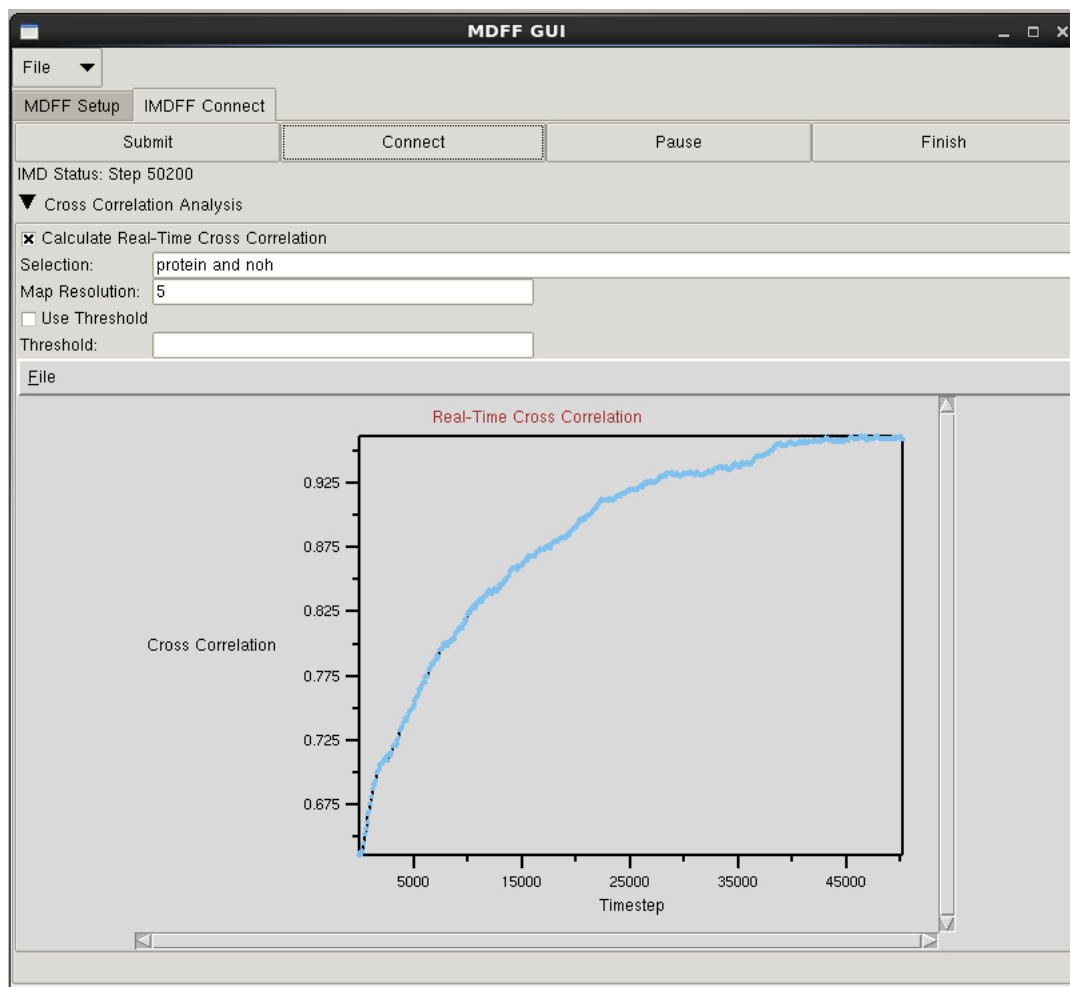

Figure 20: Analyze your interactive MDFF simulation in real-time by computing the cross correlation of the structure to the density map as the simulation runs
- 5 Before (or after) connecting to a running IMDFF simulation, you can open the 'Cross Correlation Analysis' subsection in the IMDFF Connect tab to perform real-time analysis of your fitting. To do so, check the 'Calculate Real-Time Cross Correlation' box. You can also set the atom selection for the piece of the structure you wish to analyze, as well as the resolution of the map (the defaults for both are fine for this tutorial). You can also set a threshold value, where any density values less than the threshold will not be included in the analysis. More information on choosing a threshold is given in Section 7.3. The cross correlation value for each simulation frame will be graphed in the area at the bottom of this tab, as seen in Fig. 20. This is a convenient way of determining how well your fitting is progressing and whether the simulation has converged.